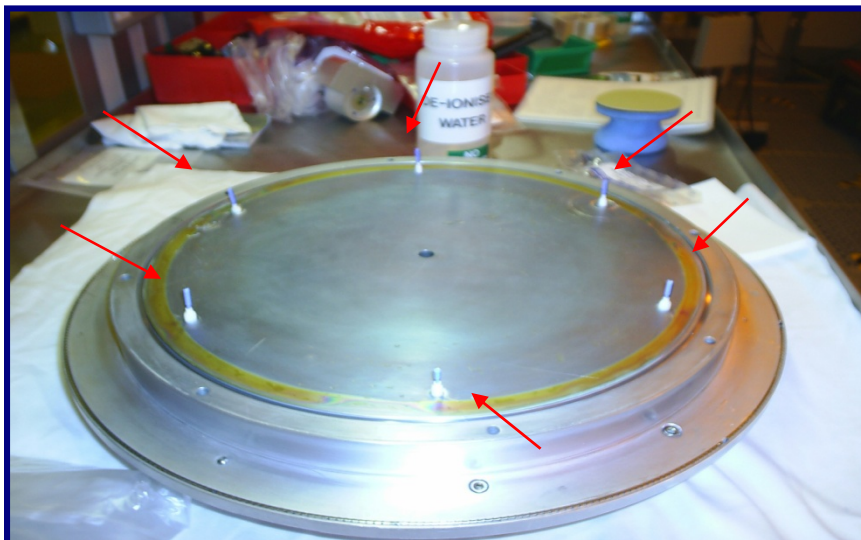

Fig 2
- Step 3:** Insert HT6638 Pipe Plugs into holes on the perimeter of the lid. This will stop DI water leaking in the holes (See Fig 2)